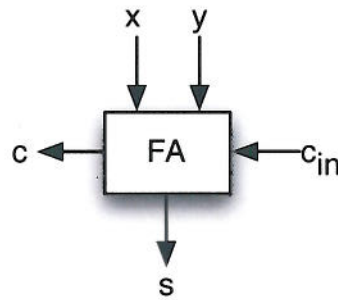

Figure 5.1 Full Adder
5. a) A block diagram of a 1 bit full adder (FA) is given in Figure 5.1. The equations that describe its outputs are $s = x \oplus y \oplus c_{in}$, and $c = x \cdot y + c_{in} \cdot (x \oplus y)$.